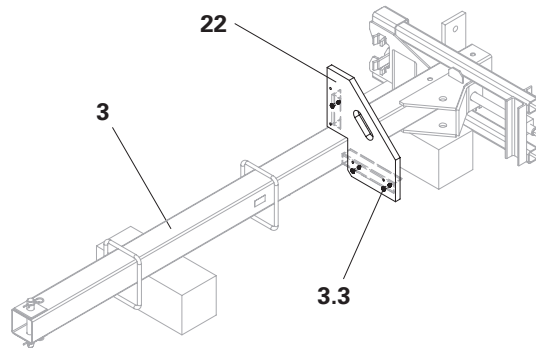

Fig. B9.03
5. Screw Landing Platform ACS (**22**) with F.H. Bolts DIN 603 M8 x 45 MU (**3.3**) onto the vertical strut (**3**). (Fig. B9.03)